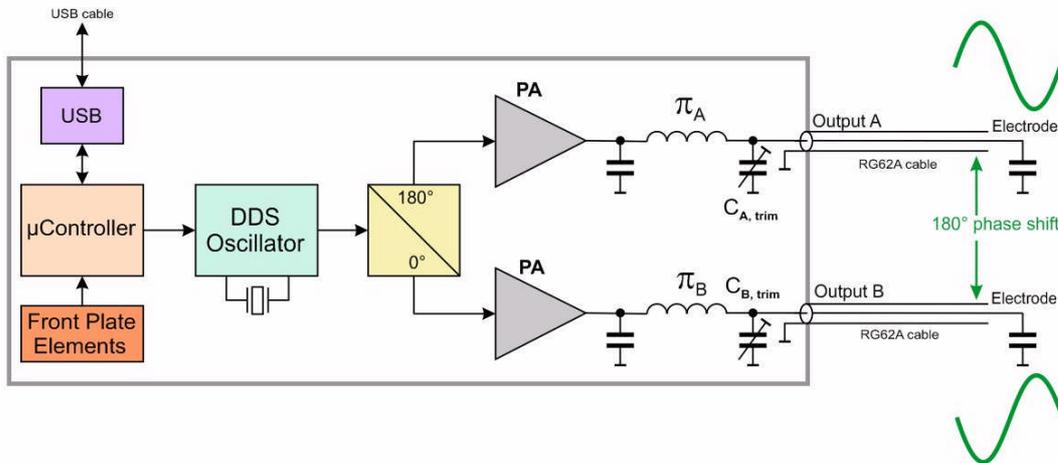
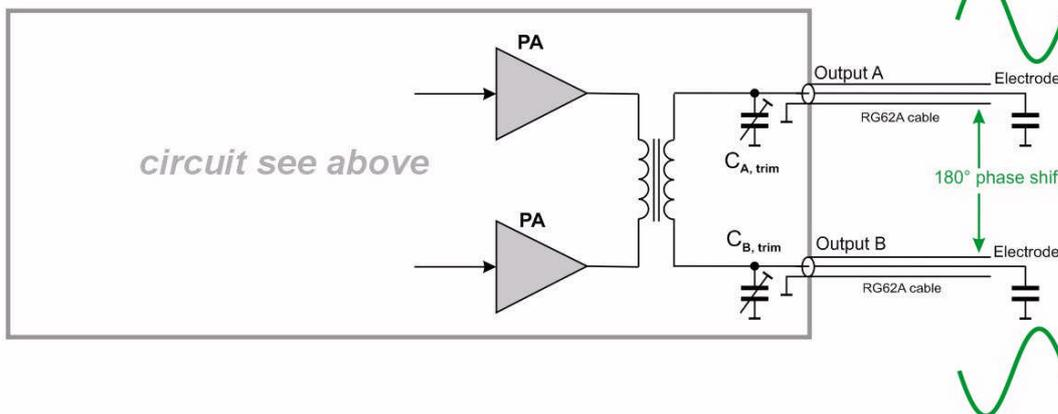

Fig. 2a: Block diagram of the internal structure, illustrating the functional principle.
Fig. 2b: Block diagram of the internal structure, option FL (floating coil), providing better output symmetry.
The following picture (fig. 2a) displays a block diagram of the internal structure, illustrating the functional principle. A digital oscillator provides a sine wave of freely adjustable and precise frequency. An inverter circuit creates the inverted signal, or in other words a 180° shift. These two signals are fed into power amplifiers (one for each channel) of choosable amplification factor, followed by a resonant  $\pi$ -filter (resonant LC circuit. The latter magnifies the obtainable voltage (about 20Vpp out of the power amplifier, PA) roughly by a factor of 50. Thus voltages of a few hundred volts to about 1kV (peak-peak values) are created, suited for Paul Ion Traps or small Quadrupole Structures. For balancing possible asymmetries, trim capacitors are provided (one for each output) to bring both outputs into resonance at the same time, thus obtaining the maximum signal level. A second output option is available (Option FL, see fig. 2b), by which output asymmetries are better, at expense of lowered output amplitude.
The device features an offset DC input, by which the output voltages can be shifted. Voltages being applied to these input lines are added to the AC signal (RF) of the outputs (this feature is not shown in fig. 2a/b).
The output option FL with a floating output coil (see fig. 2b) may be chosen to ensure best symmetry of the 2 output signals, which can be important in certain ion trap setups. Without option FL a typical phase accuracy of 3° is achieved, and remaining amplitude asymmetry of 4 to 10%. The latter is limited by unavoidable coupling capacitances, which occur in quadrupole setups or ion traps and which are typically in the order of a few pF. They create a certain amount of unwanted coupling with the two output resonance circuits, thus making it impossible to adjust the amplitudes completely freely and individually. This can be a severe hinderance in cases, where very good symmetry of the two output signals are desired.